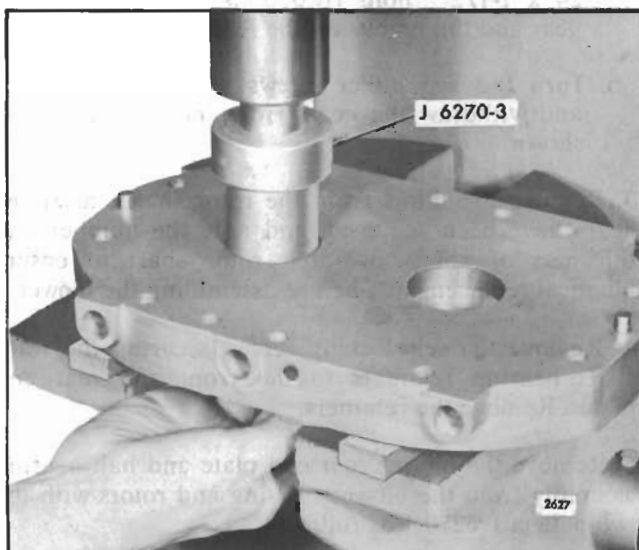

Fig. 6 - Removing Oil Seal (or Oil Seal Ring Collar) and Bearing from End Plate
- b. Place the long end of the oil seal remover and installer J 6270-3 down through the oil seal and into the bearing, with the opposite end of the remover under the ram of the press (Fig. 6). Then press the bearing and oil seal out of the end plate. Discard the oil seal.
- h. Refer to Fig. 6 and support the outer face of the blower end plate on wood blocks on the bed of an arbor press.
- i. Place the long end of the oil seal remover and installer J 6270-3 down through the oil seal ring collar and into the bearing, with the opposite end of the remover under the ram of the press (Fig. 6). Then press the bearing and oil seal ring collar out of the end plate.